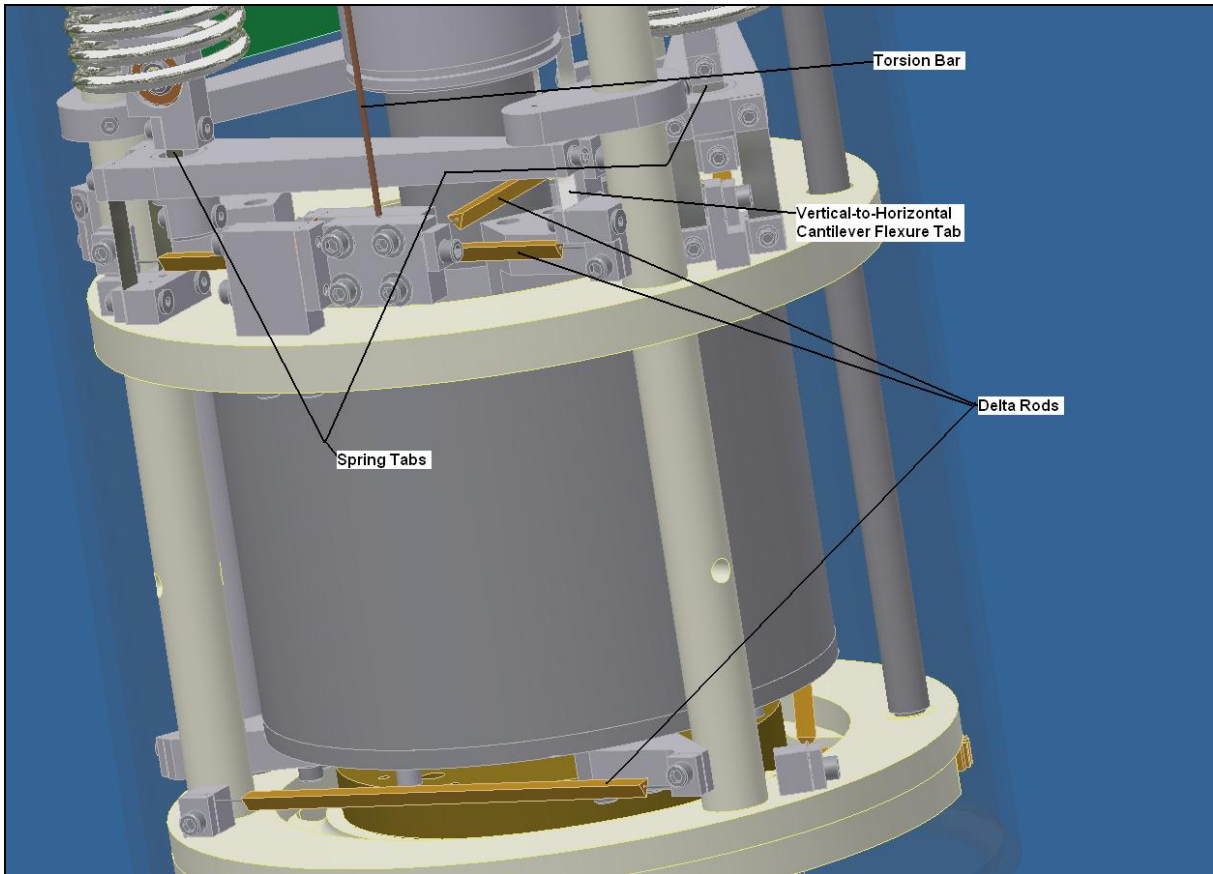

Figure 15. Visual Inspection Parts.
- (a) *Inspect the delta rod.* Seven delta rods will be inspected as shown in Figure 15.
- (b) *Inspect tension rod.* **It is assumed** this is the same as the torsion bar shown in Figure 15.
- (c) *Inspect spring tabs.* **It is assumed** that the locations of these particular tabs, as shown in Figure 15, are correct.
- (e) *Inspect vertical-to-horizontal cantilever flexure tab.* **It is assumed** that this requirement is no longer applicable, since vertical units will not be converted into horizontal ones. Refer to Figure 15 for location of this tab.